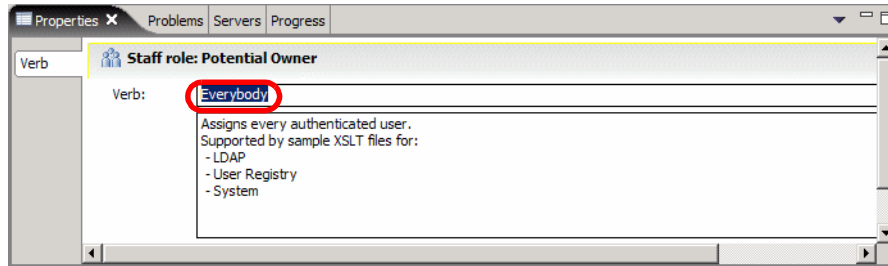

Figure 9-23 Human tasks: Change Role Members to Everybody
- ▶ Select *Potential Owner* under Receiver Settings. In the Properties view, select *Everybody* as verb (Figure 9-23).